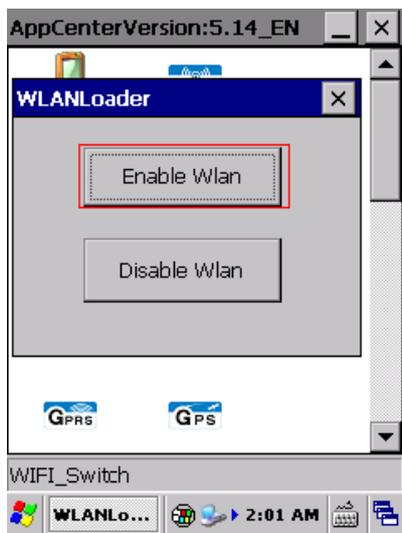
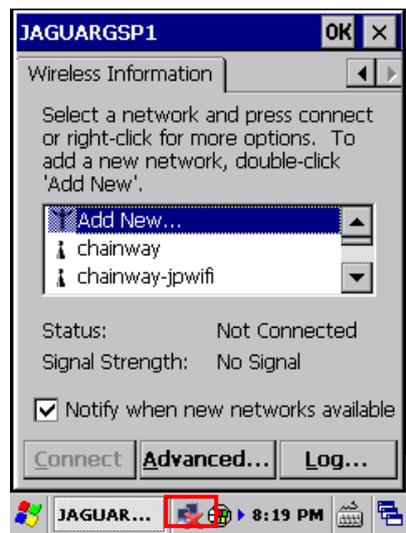

Figure4.3-3 WLAN Loader
Figure4.3-4 Network Icon
2) Click **Enable WLAN** (Figure4.3-3), then network icon will display on toolbar (Figure4.3-4);